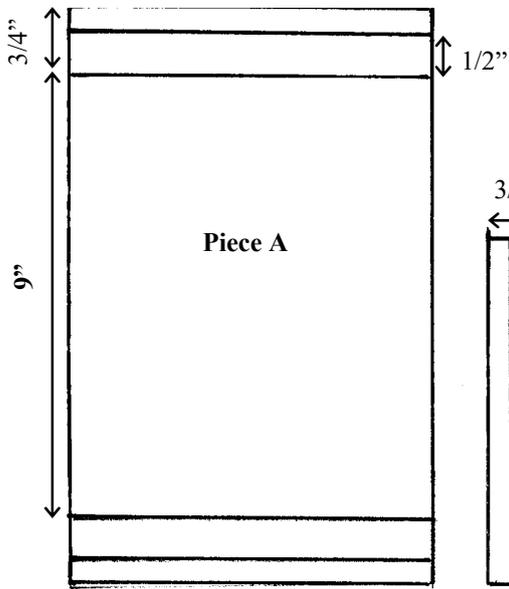
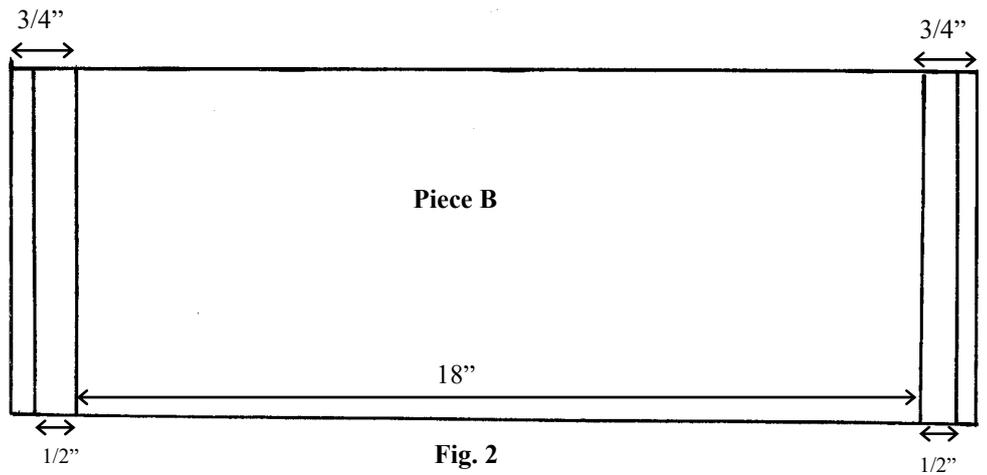

Fig 1.
Fig. 2
1. Cut 8 pieces of ripstop measuring 8 inches by 9 inches, piece "A" (Fig 1) and allow  $\frac{1}{4}$  inch for hemming on the 9 inch sides and  $\frac{3}{4}$  of an inch on the 8 inch sides. Then cut 5 pieces measuring 8 inches by 18 inches, piece B (fig 2) and as above allow  $\frac{1}{4}$  of an inch for hemming on the 18 inch sides and  $\frac{3}{4}$  of an inch on the 8 inch side. The  $\frac{3}{4}$  allowance also incorporates a  $\frac{1}{4}$  inch sewing point, this will be to make a  $\frac{1}{2}$  inch pocket for the longerons.